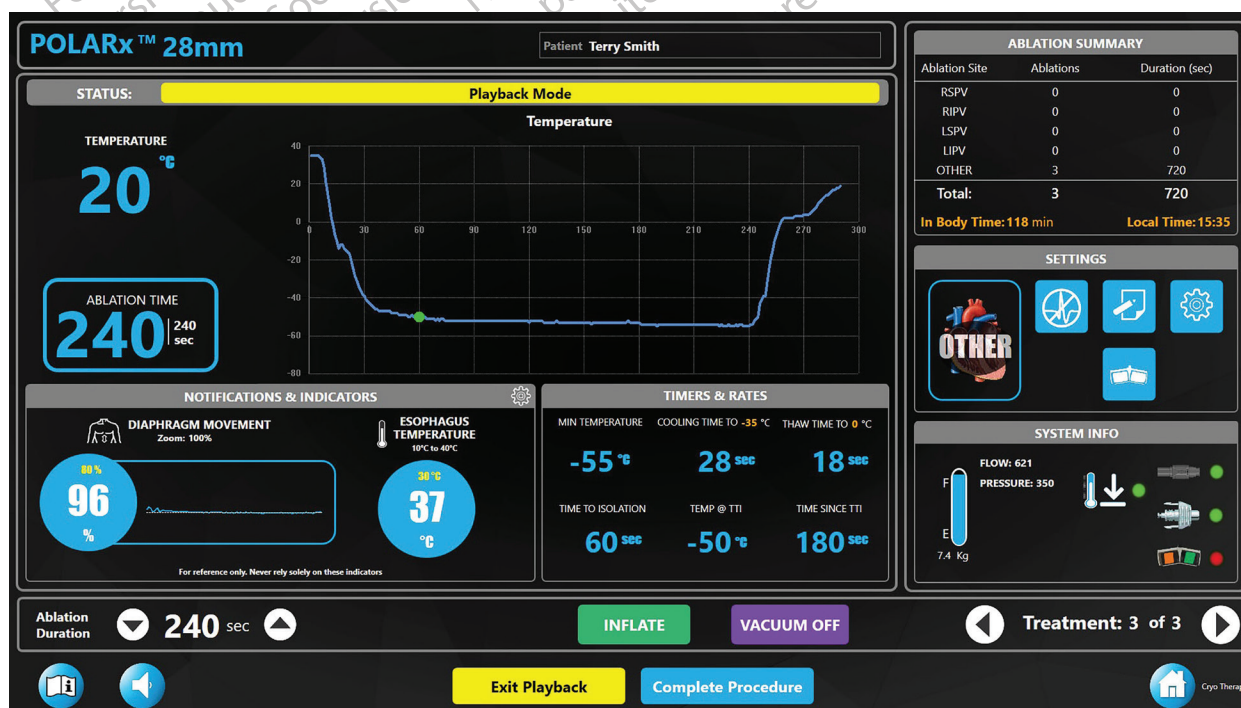

Figure 26. Playback Mode
- If the **Exit Playback** button is pressed, the **PLAYBACK** button appears. Pressing the **PLAYBACK** button allows data from the previous ablations to be reviewed. Press the **PLAYBACK** button to enter the **Playback Mode**, shown in Figure 26.
- Use the **Treatment** arrows (Figure 26) to display data from previous treatments within the current procedure.
1. When treatment is completed, press the **Complete Procedure** button on the Therapy screen (Figure 26 or Figure 29).